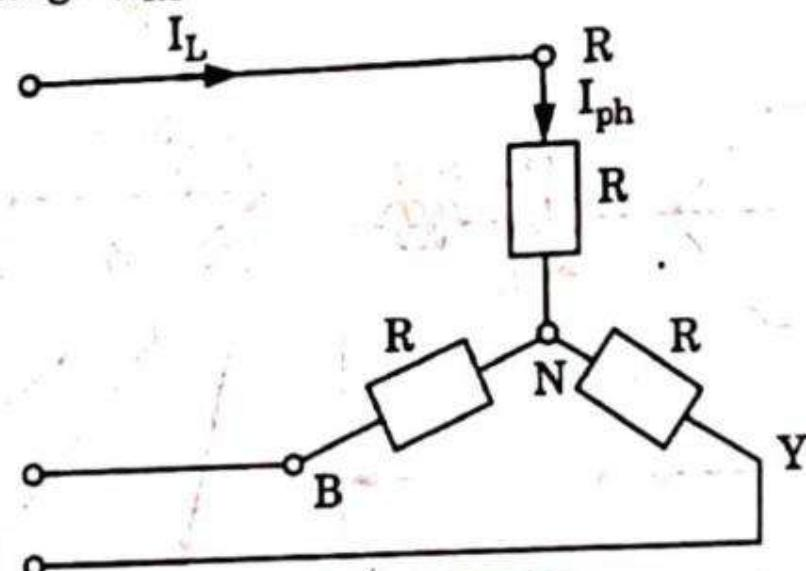

Fig. 2.37.1.
5. From the Fig. 2.37.1 of star-connected load it is clear that $I_L = I_{ph}$.